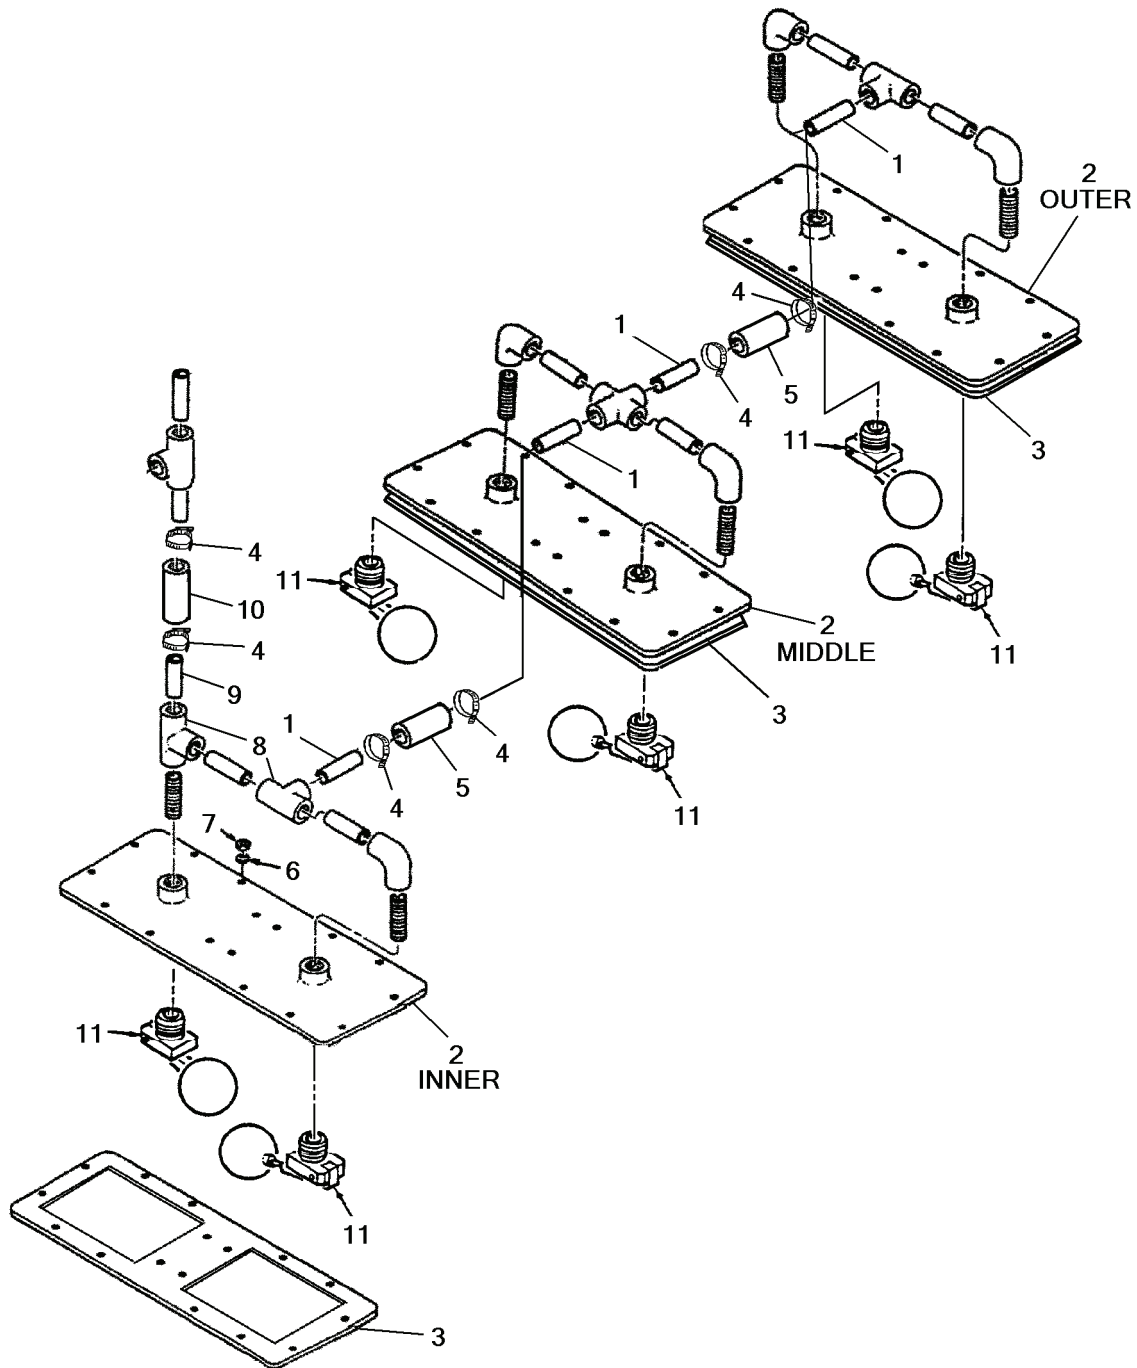
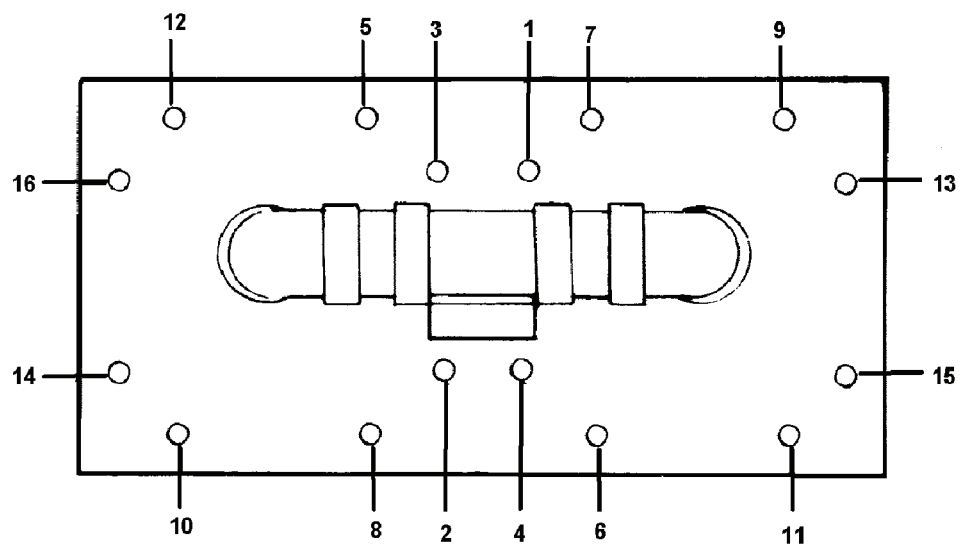

Figure 2-16. Sedimentation Tank Cover Assemblies.
Figure 2-17. Sedimentation Tank Cover Torque Sequence.
**2-16. Sedimentation Tank Top Assembly. (Figure 2-16 and 2-17)**
Hoses (5 and 10, Figure 2-16) will slide on PVC pipe (1 or 9) until butted to the T-fitting, the middle cover must be removed before the inner cover due to space limitations.
- a. Loosen the hose clamps (4, Figure 2-16) and slide rubber hoses (5 and 10, Figure 2-16) off pipe (1 or 9, Figure 2-16).
- b. Remove nuts (7, Figure 2-16) and washers (6, Figure 2-16).
- c. Remove cover assembly (2).
- d. Remove cover gasket (3).
- b. Inspect/replace the gasket (3) if damaged.
- c. Check float valve assembly (11, Figure 2-16), replace if damaged.
- a. Clean the gasket sealing surfaces on the sedimentation tank and cover assembly (2, Figure 2-16).
- b. Position the gasket (3, Figure 2-16) on the sedimentation tank.
- c. Position cover assembly (2, Figure 2-16) onto the appropriate location of the sedimentation tank.
- d. When positioning the inner cover (2) the end of the vent pipe (9, Figure 2-16) must be placed in the hose (10). Position the cover (2) on the tank and studs.
- e. Install the sixteen nuts (7, Figure 2-16) and washers (6, Figure 2-16) on the cover (2, Figure 2-16). Tighten each nut finger tight only.
- f. Tighten the nuts (7, Figure 2-16) to 31 ft-lbs in the sequence shown in Figure 2-17.
- g. Tighten the clamps (4, Figure 2-16) on the hose (5, Figure 2-16) to 40 in-lbs.